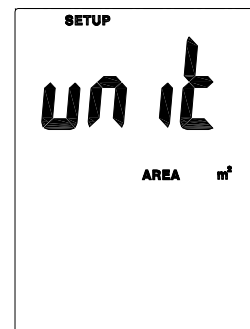

Fig.2
1. When the thermometer is in Setup mode, press or to scroll to the area unit setup option (refer Fig.2).